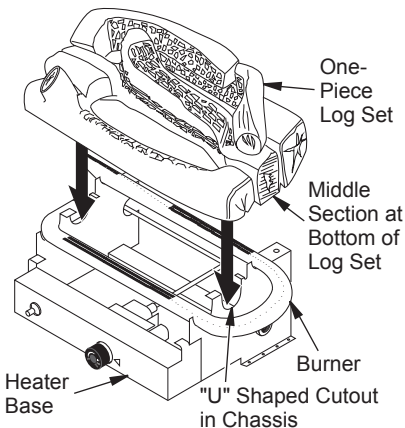
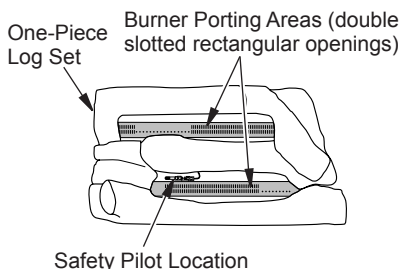

Figure 15 - Installing One-Piece Stove Log Set
Figure 16 - Top View of One-Piece Log Set on Gas Log Heater
8. Set one-piece log on heater base as shown in Figure 15. Make sure middle section at bottom of log is seated into "U" shaped cutout in center of heater base. Log will fit securely on base. **IMPORTANT:** Make sure log does not cover any burner ports and does not touch the stove cavity (see Figure 16).
9. Fasten back panel to stove with six (6) M6 x 1.20 mm bolts and washers. Make sure product identification label is located on the outside lower left-hand corner.